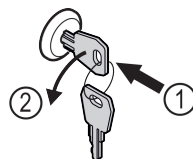

Fig. 176
- Insert the key. Fig. 176 (1)
- Turn the key anticlockwise by 90°. Fig. 176 (2)